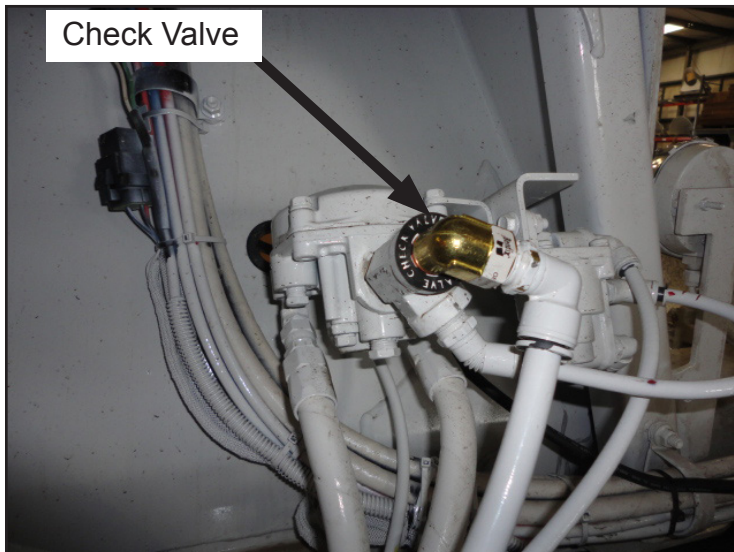

Figure 4: Install the check valve on to the RE-6 valve.
7. Install the PN 1854390 check valve onto the RE-6 valve (see Figure 4). Tighten until secure.